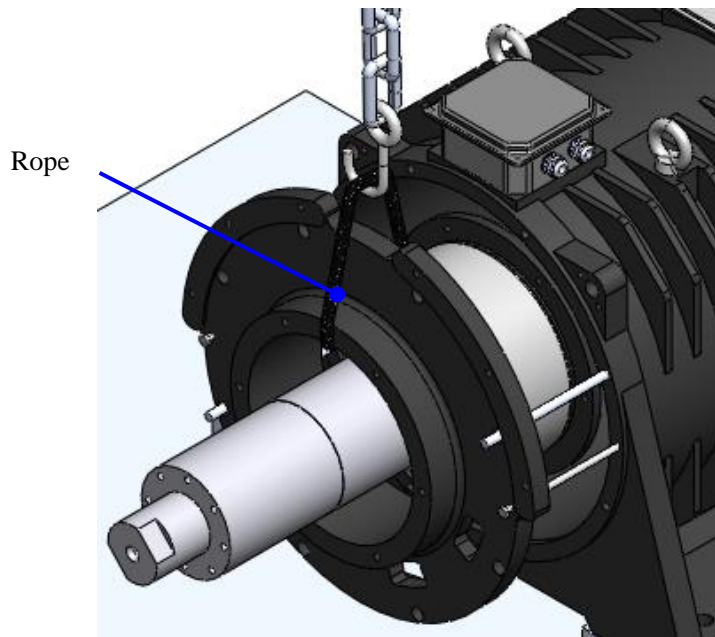

Figure 142: Hoist the Front cover
7. Hoist the Front cover with hoisting equipment; remove the double end studs M160x300 and the bolt M12x250 (2 pieces). See Figure 142.